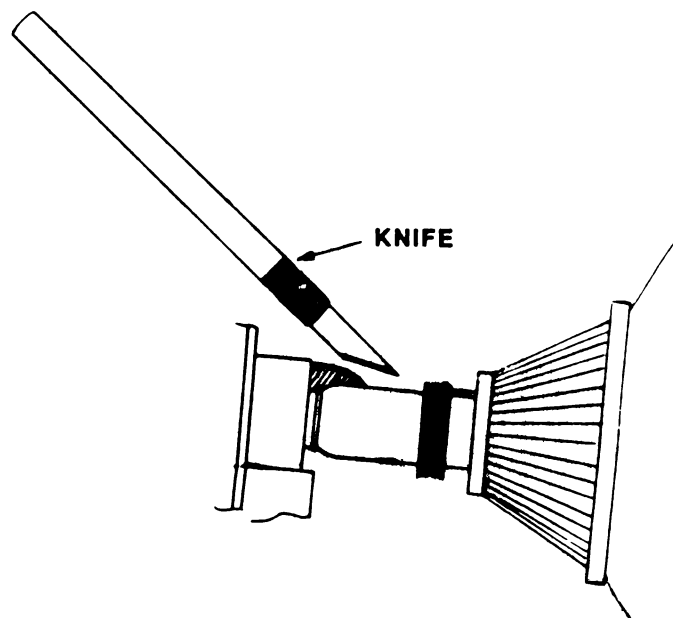

FIGURE 6
3. Use an X-acto knife or a pair of sharp diagonal cutters to carefully cut off the silicon glue that holds the CRT video board to the CRT neck (see Figure 6).
6. Apply the silicon glue to secure the CRT video board to the end of the CRT neck (Figure 6).